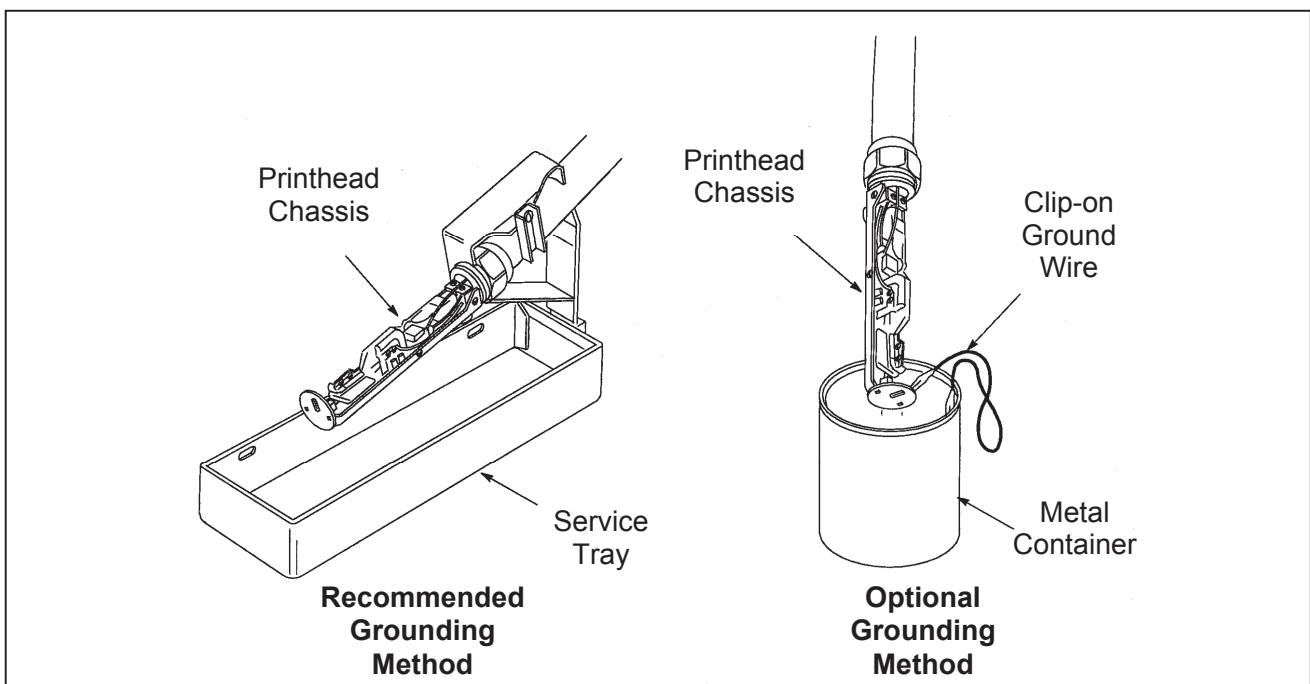

Figure 6-7. Grounding Methods
6. Ground the printhead. Refer to Figure 6-7 for two grounding methods.